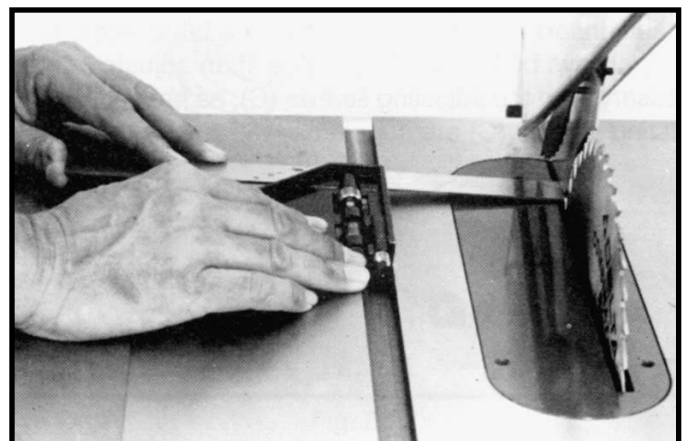

Fig. 120
3. Rotate the saw blade so that the same tooth you used in STEP 2 is in the rear position, as shown in Fig. 120, and check this distance. Both the front and rear measurements should be identical.